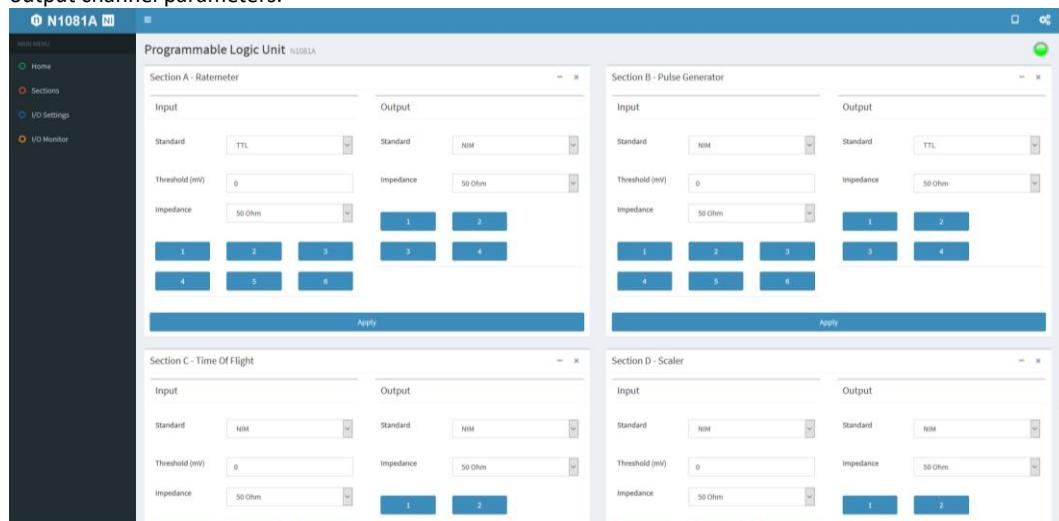

Figure 15.3: general view of the I/O Settings page of the x1081B Web interface.
*I/O Settings* page contains four tabs (see **Figure 15.3**), one for each section, with settings for Input and Output channels.